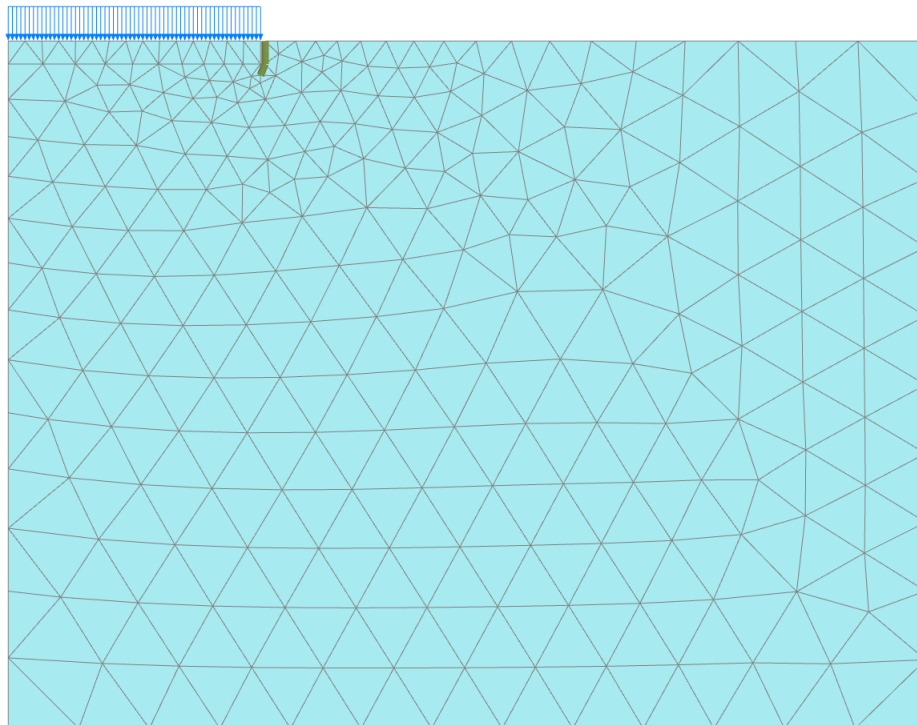

Figure 11-14: The generated mesh
- 3 Click the **View mesh** button  to view the mesh as shown in Figure 11-14 \(p. 187\).